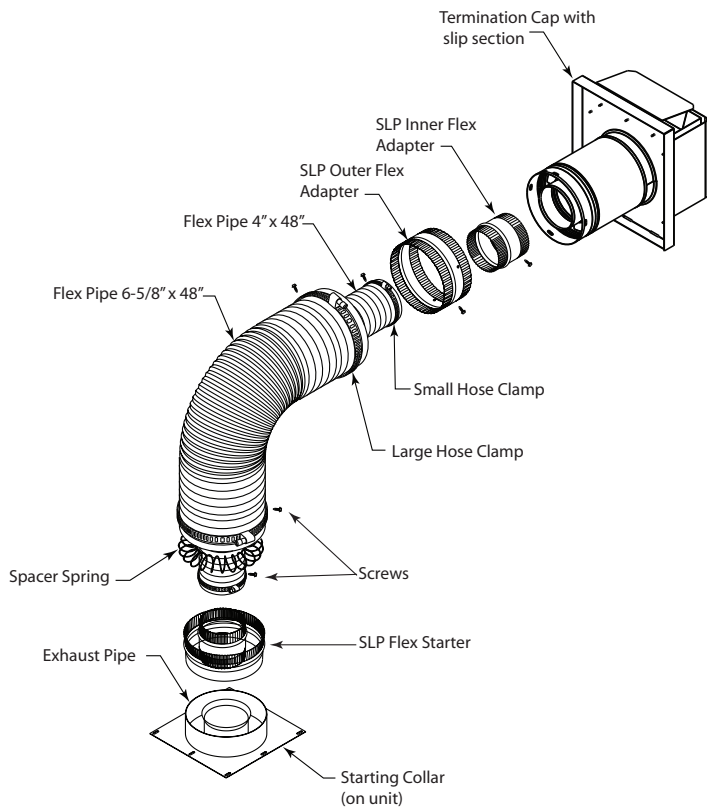

Figure 13 - SLP-HSFTK
## SLP-HSFTK HORIZONTAL TERMINATION KIT *Figure 13*
3. If the house has vinyl siding, mark and cut the vinyl siding around the pipe so the termination cap can be mounted flush to the wall. Finish the edges of the siding with trim or "J channel" and caulking to prevent water from leaking into the building. *Figure 13*
4. Attach the termination cap to the exterior wall using four (4) screws provided.